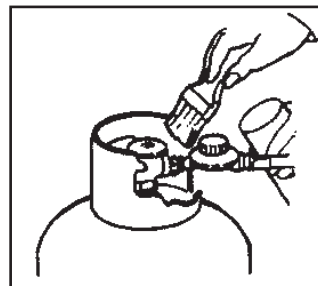

Fig. 4
6. Brush the soap solution on each connection. (Fig. 4 & 5)